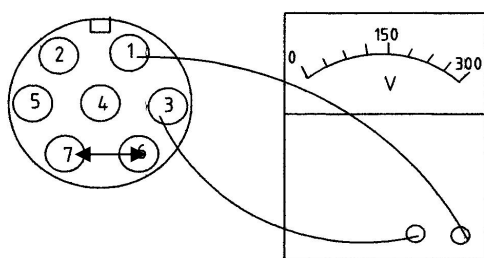

Figure 8
1.3 Connect a 300V AC voltage meter in ① and ③ jacks of seven core cable plug.(see figure 8)